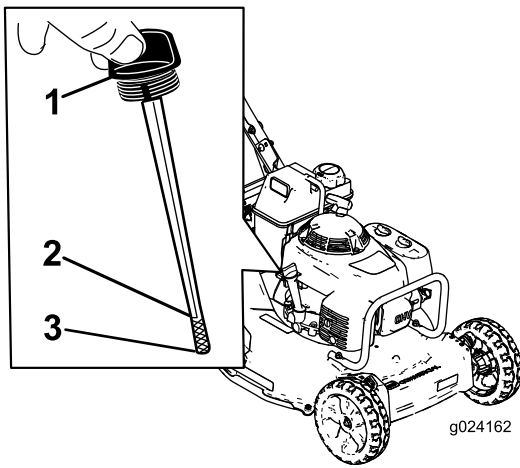

Figure 7
Before each use, ensure that the oil level is between the Add and the Full marks on the dipstick (Figure 7).
2. Clean around the dipstick (Figure 7).